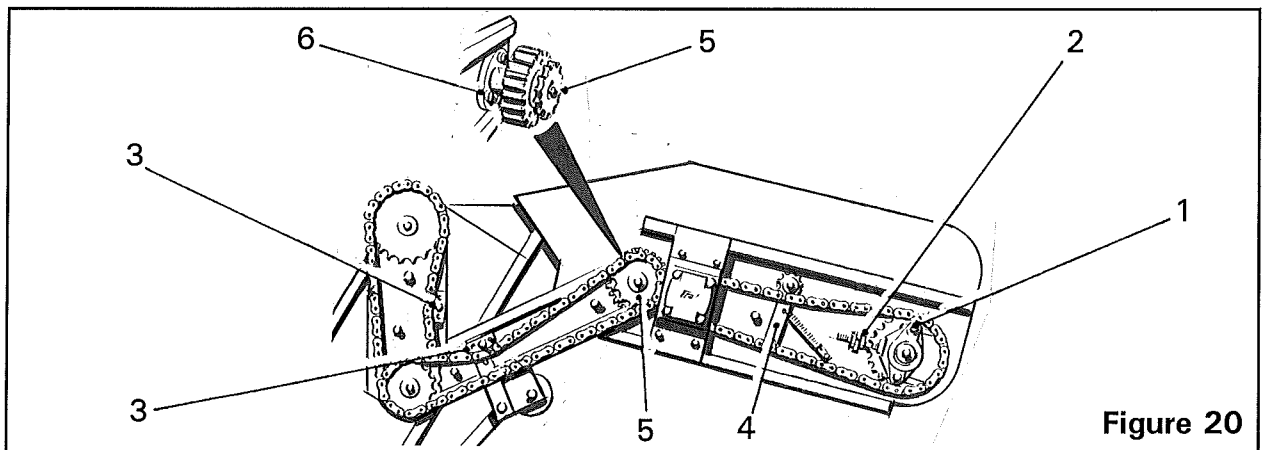

Figure 20
Adjustment in tracking of the discharge web is made by loosening the end roller locknuts (*item 7, figure 19*) and repositioning the adjusters (*item 8, figure 19*). Further adjustment can be achieved by repositioning the top drive shaft bearings (*item 1, figure 20*) by adjusting the tensioners (*item 2, figure 20*).
The drive for the discharge elevator webs is provided by a hydraulic motor. The drive is transmitted by three chains and two gears which should be checked regularly and adjusted when required. Two of the chains are tensioned by the adjuster blocks (*item 3, figure 20*). The remaining chain is fitted with a spring adjusted tensioner (*item 4, figure 20*). The idler gear (*item 5, figure 20*) can be adjusted in relation to the motor gear when required. To adjust, loosen the three retaining bolts (*item 6, figure 20*) and rotate the gear and spigot in the slots.